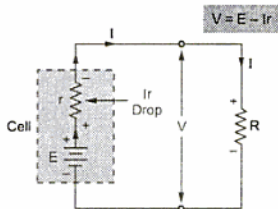

Fig. 7.3 Terminal voltage
3. Terminal voltage : When an external resistance is connected across the terminals of the cell, the current I flows through the circuit. There is voltage drop ' Ir ' across the internal resistance of the cell. The cell e.m.f. E has to supply this drop. Hence practically the voltage available at the terminals of the cell is less than E by the amount equal to ' Ir '. This voltage is called the **terminal voltage** V . This is shown in the Fig. 7.3.